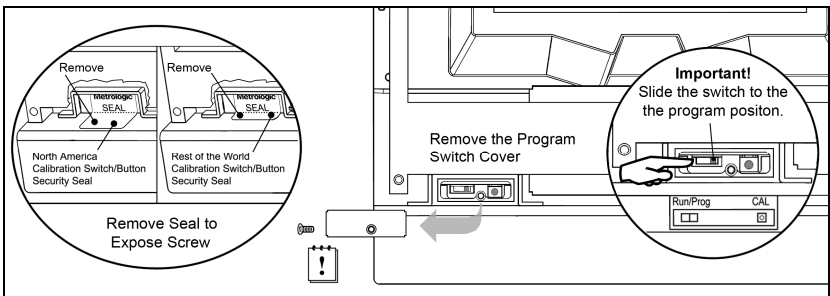
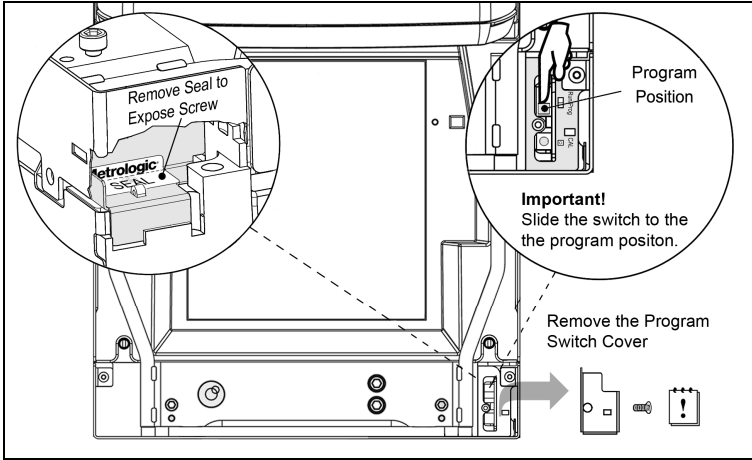

Figure 2. StratosE and StratosH Calibration Seal and Switch Location
Figure 3. StratosS Calibration Seal and Switch Location
2. **Cut and remove** the security seal over the program/calibration switch cover. See *Figure 2* below for seal location on the StratosE and the StratosH models. See *Figure 3* on page 3 for the seal location on the StratosS.
4. **Enter the scale program mode** by sliding the switch to the *program* position. See *Figure 2* below for the switch location on the StratosE and StratosH. See *Figure 3* on page 3 for the switch location on the StratosS.